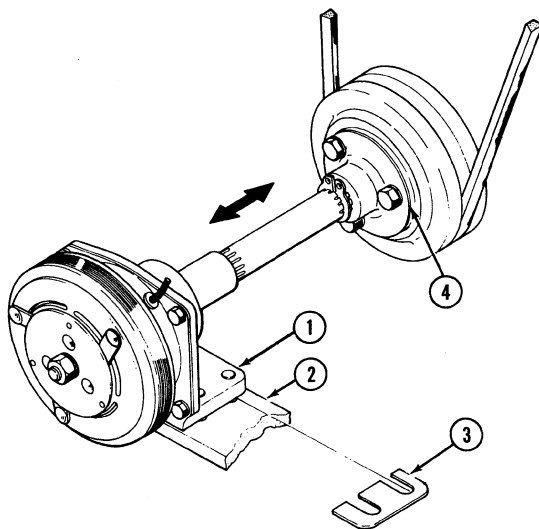

Figure 15
NOTE: The Ford 1100 PTO drive has shims between the support bracket (1) and frame (2), Figure 15. When disassembling note the number and thickness of the shims to facilitate assembly. Remove the coupling (4), Figure 15, from the crankshaft.
2. Align the PTO shaft to the crankshaft with shims on the Ford 1300-1900 tractors. Refer to Figure 15.